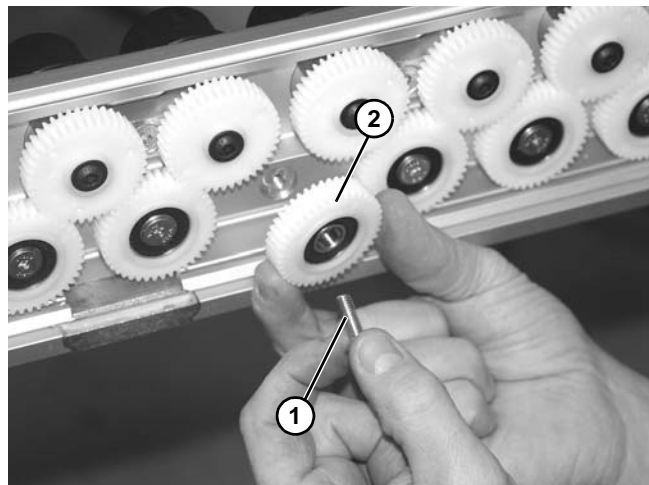

Figure 55
3. Remove screw (Figure 55, item 1) and gear (Figure 55, item 2) from frame.